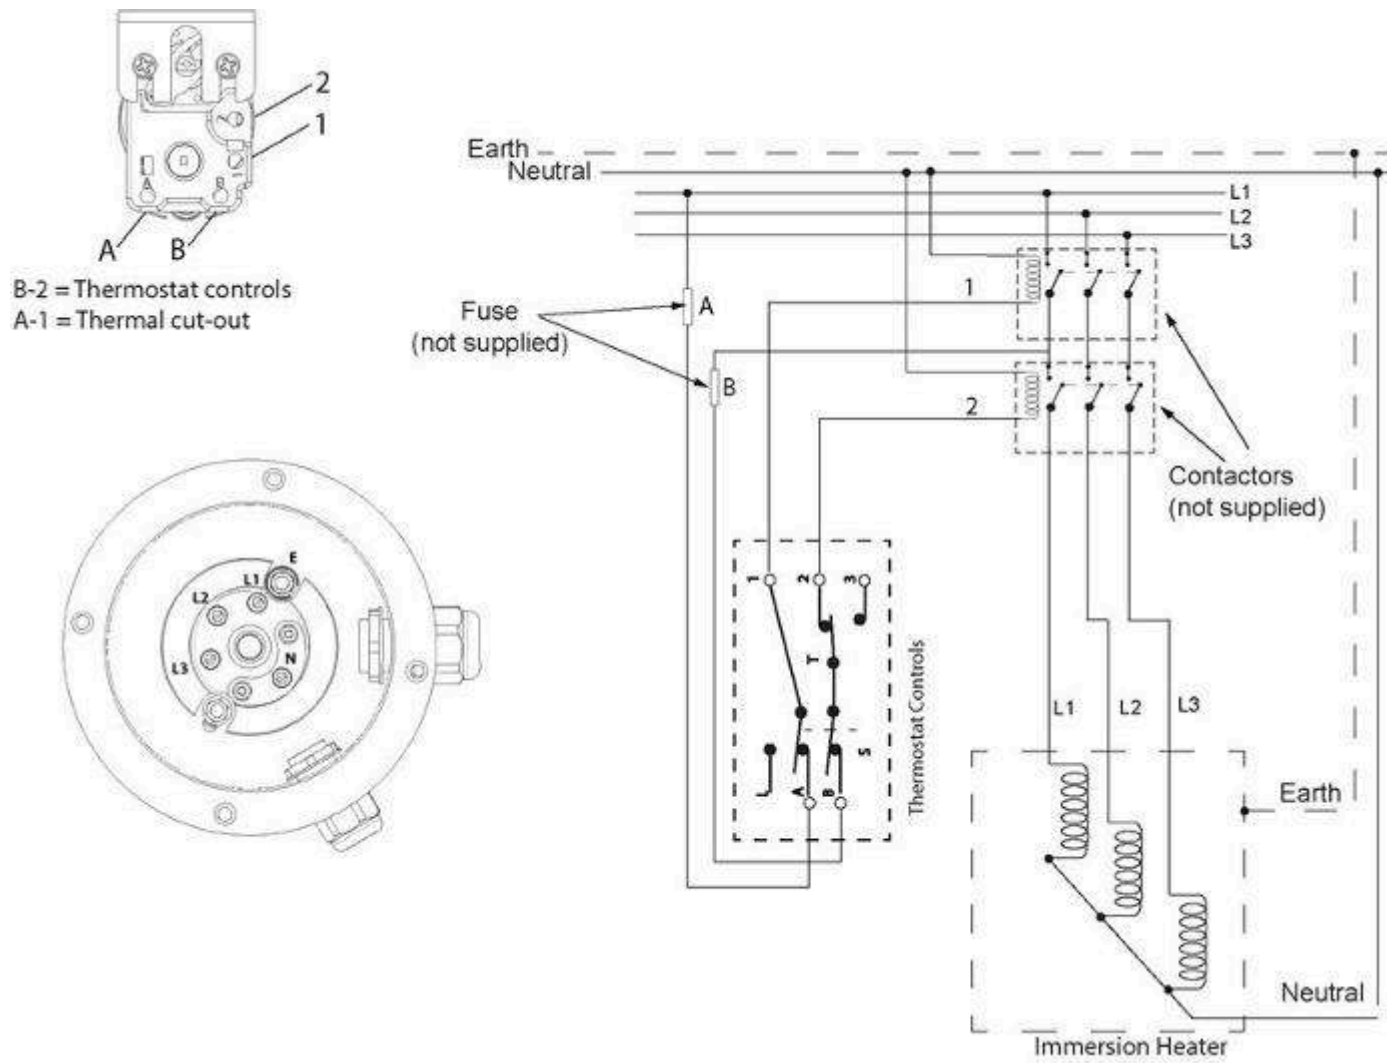

Figure 6: Three phase wiring schematic
- Wire up immersion as per figures 6.
and wire up as per figure 6 or 7 .